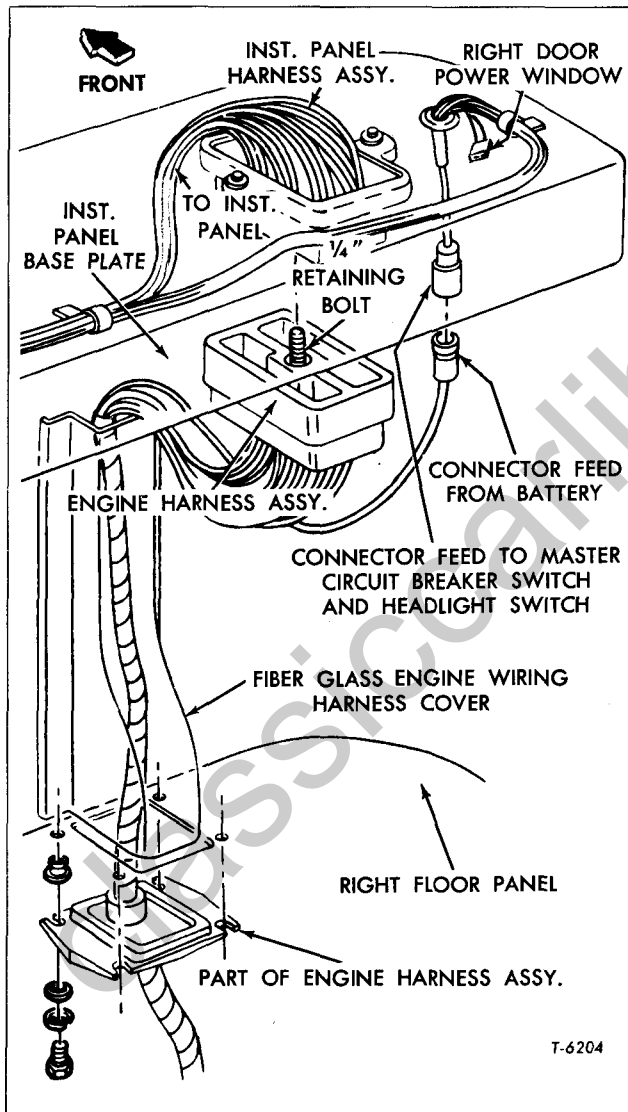

Figure 3—Engine Harness to Instrument Panel Harness Connector (Alum. Tilt Cab Models)
3. Insert a 3/8- or 7/16-inch socket through engine harness wiring (fig. 3), then turn retaining bolt out. Remove connector from harness.
4. The connector feed wire from the battery can be disconnected from the connector feed wire to master circuit breaker switch and headlamp switch (fig. 3).